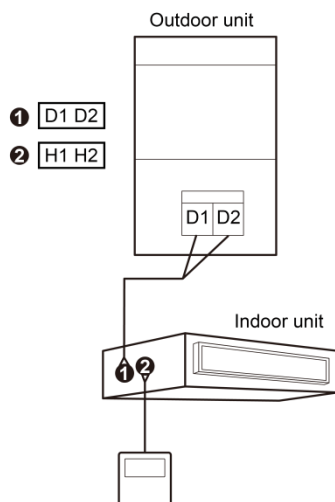

Fig.3.6 One wired controller controls one indoor unit
- (1) Floor standing indoor unit only applicable to Fig.3.6.
- (2) Wired controller XE7A-24/HC only supports one (or more) indoor unit(s) controlled by one wired controller.